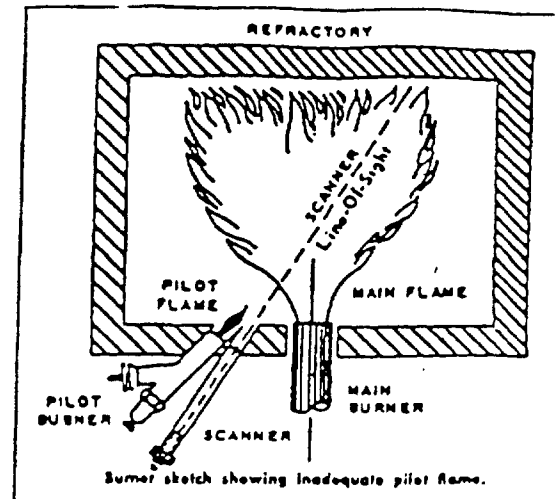

Figure 12
13. Reduce the size of the pilot until the flame relay is observed to drop out, then slowly increase the size of pilot flame just to the point where the flame relay pulls in. This is called minimum pilot. (Note Figs. 12, 13, 14).